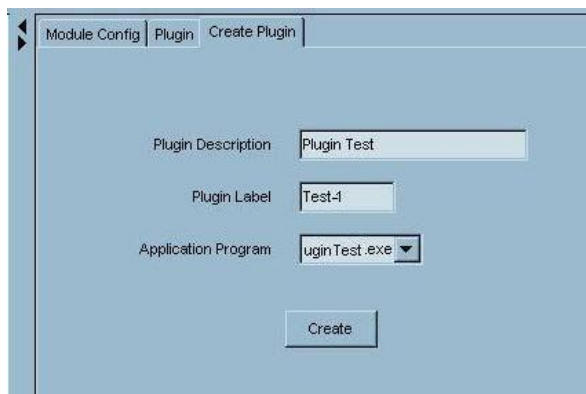

Figure 3-20: Naming and Associating a Plug-in file
-  **Step 4.** Click *Create* to complete the process. (See *Figure 3-20*)